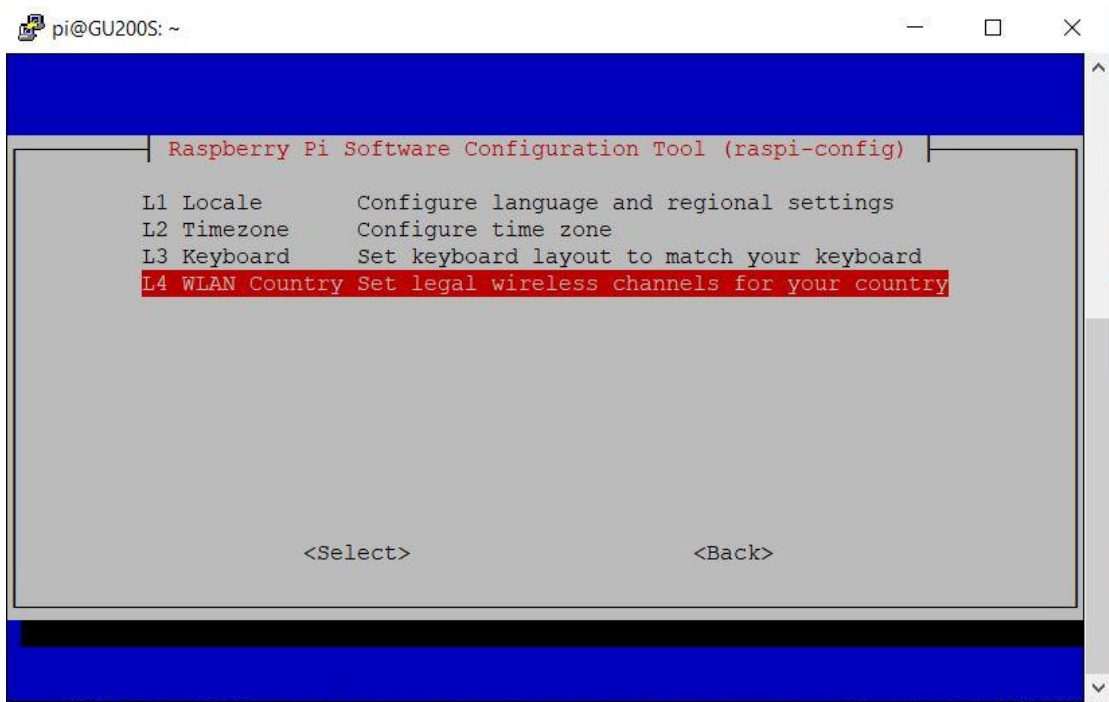

Figure 118 Choose WiFi country
Step 2. Choose item L4 to select WiFi country (Figure 118). Select “OK”.
When the gateway is moved to a new location, time zone can be changed by selecting “L2 Timezone” in Figure 118, and select the corresponding city in user’s time zone. Then use “Tab” key to jump to “OK”, and select “finish” to update the time zone.